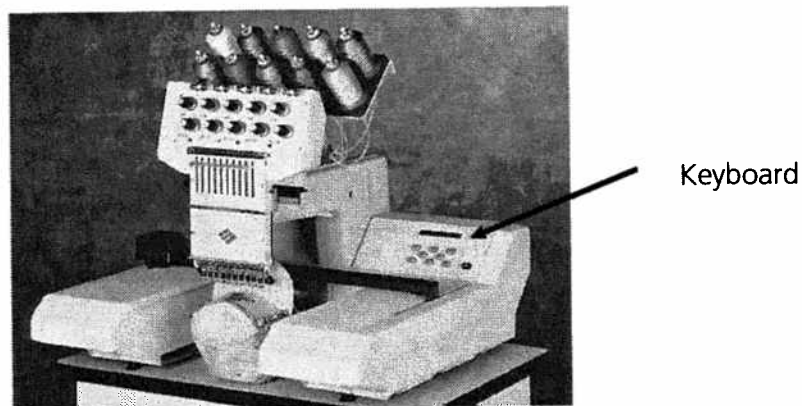

Figure 1-4
1. Before you turn on the EMC 10, locate the keyboard on the right side of the peripheral (shown in Figure 1-4).